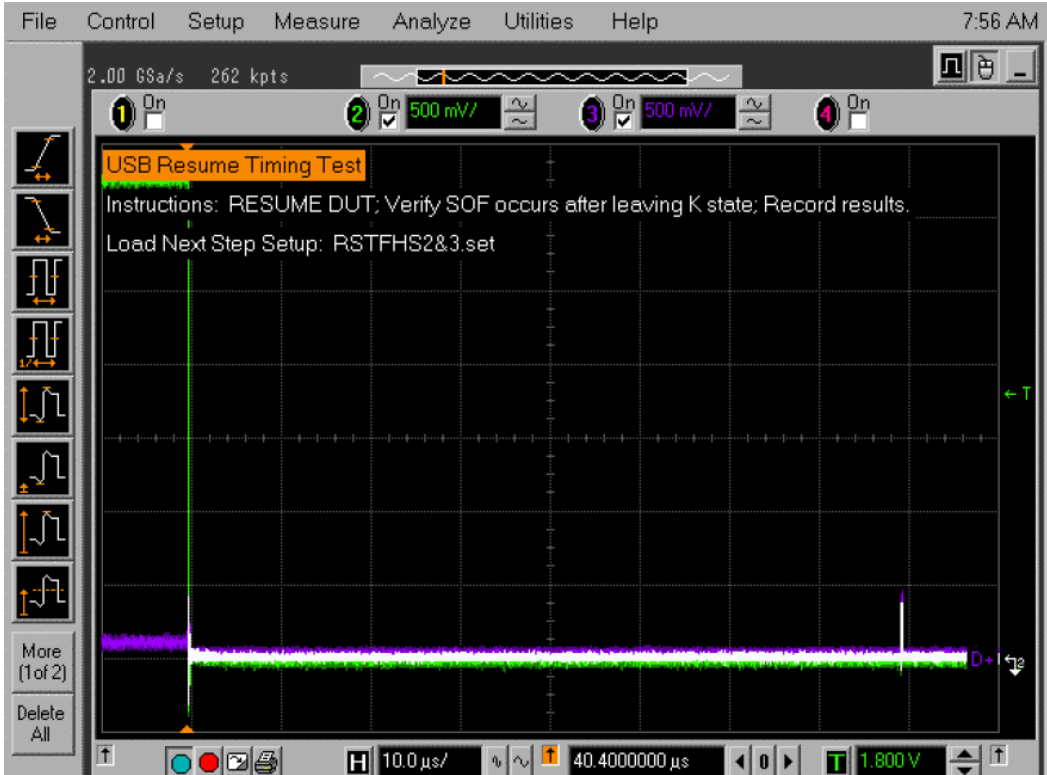

Figure 47. Device resume waveform
9. Select **Resume**, then click on **Execute** once to resume the device from suspend. The captured resume transition should appear as in Figure 47.